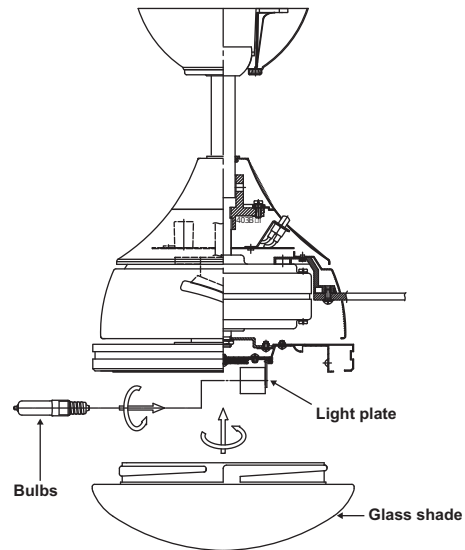

Figure 17
Step 1. Install the 100W JD-type halogen bulb (included). (Fig. 17)
Step 2. Install the glass shade by carefully turning it clockwise until snug. **DO NOT OVERTIGHTEN.** (Fig. 17)